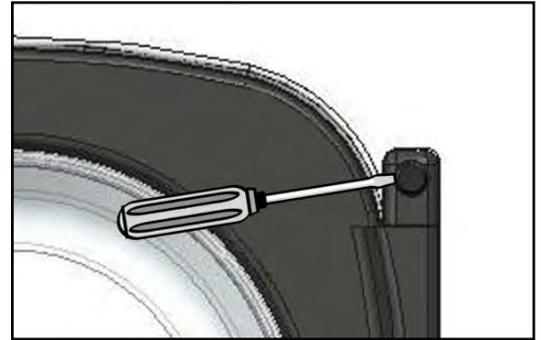
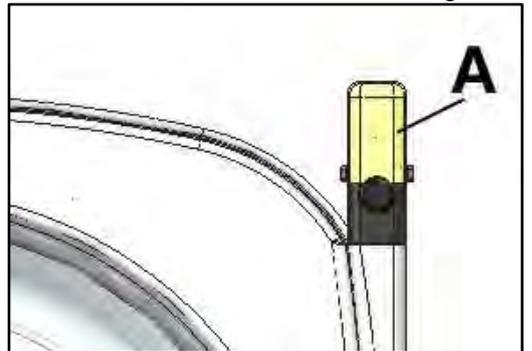

Fig. 13.2
Fig. 13.3
- Remove the protective caps of the hinge locking screws (Fig. 13.2). In models RMS/RMG628, REM/RMG070, HS-6024, HS6032, EH060 and EH080, first remove the plastic guard (Fig.13.3/A).